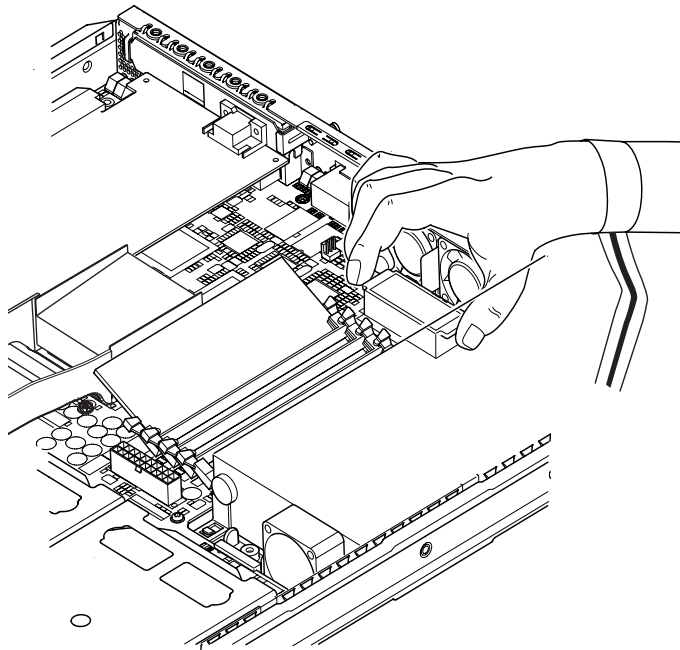

FIGURE 11-5 Replacing the NVRAM Chip
3. **Carefully take the NVRAM chip carrier lengthwise between your thumb and forefinger and pull it out of its socket (see FIGURE 11-5).**